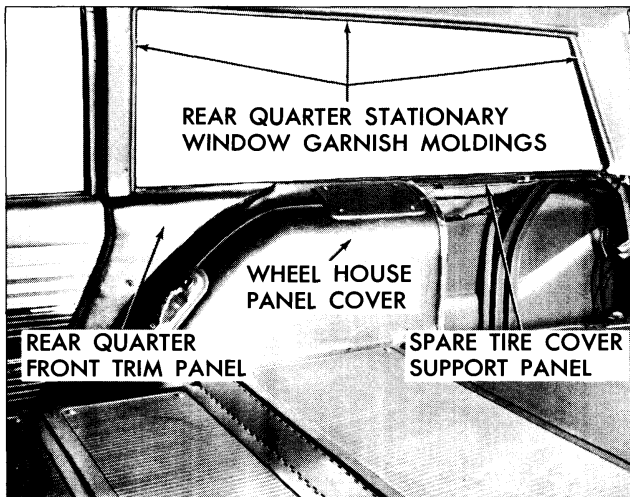

Fig. 4-16 Right Rear Quarter Trim
2. Remove rear quarter front trim panels, rear quarter rear trim panel, rear quarter wheelhouse panel cover, spare tire cover, and spare tire cover support (Fig. 4-16).
3. Remove rear quarter stationary window channel lower retainers (one required for right side, two required for left side), (Fig. 4-16).